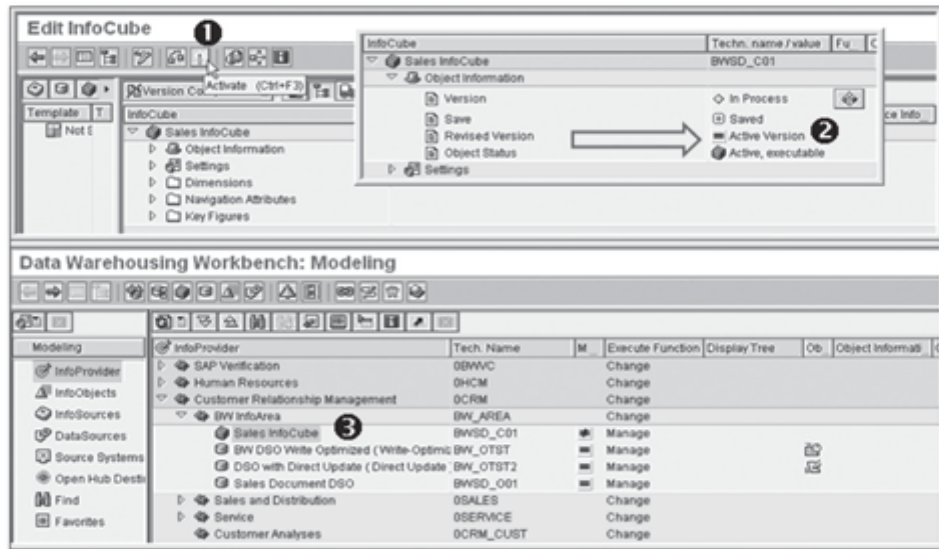

Figure 5.22 Activating the InfoCube
The InfoCube design is now ready, and you can check its definition using the Check icon  on the dynamic menu bar. If no inconsistencies are found, the system gives a message that reads "InfoCube BWSD_C01 is consistent," which appears on the status bar. This means that you can activate the InfoCube definition using the Activate icon  (refer to ❶ of Figure 5.22).
The activated BWSD_C01 InfoCube can be seen under the BW_AREA InfoArea, as shown in ❸ of Figure 5.22.